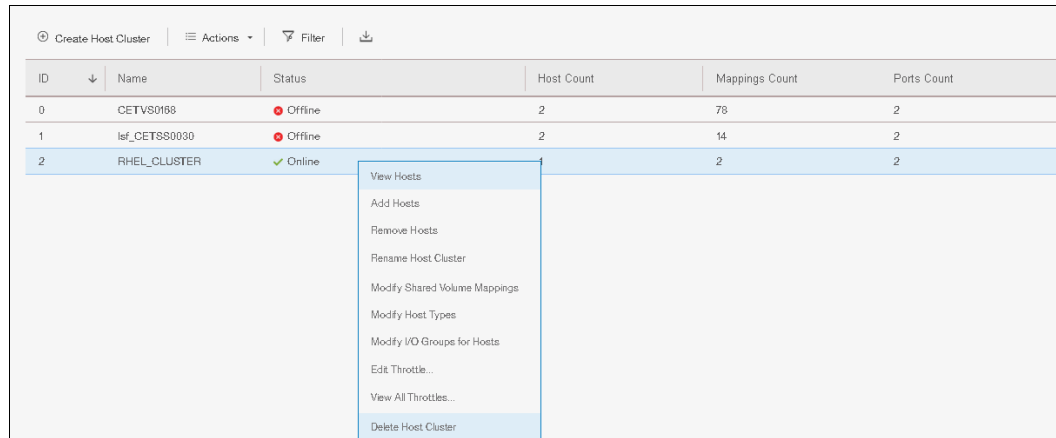

Figure 5-109 Delete Host Cluster selection
2. Right click on the desired host cluster and select **Delete Host Cluster** as shown in Figure 5-109 on page 262.